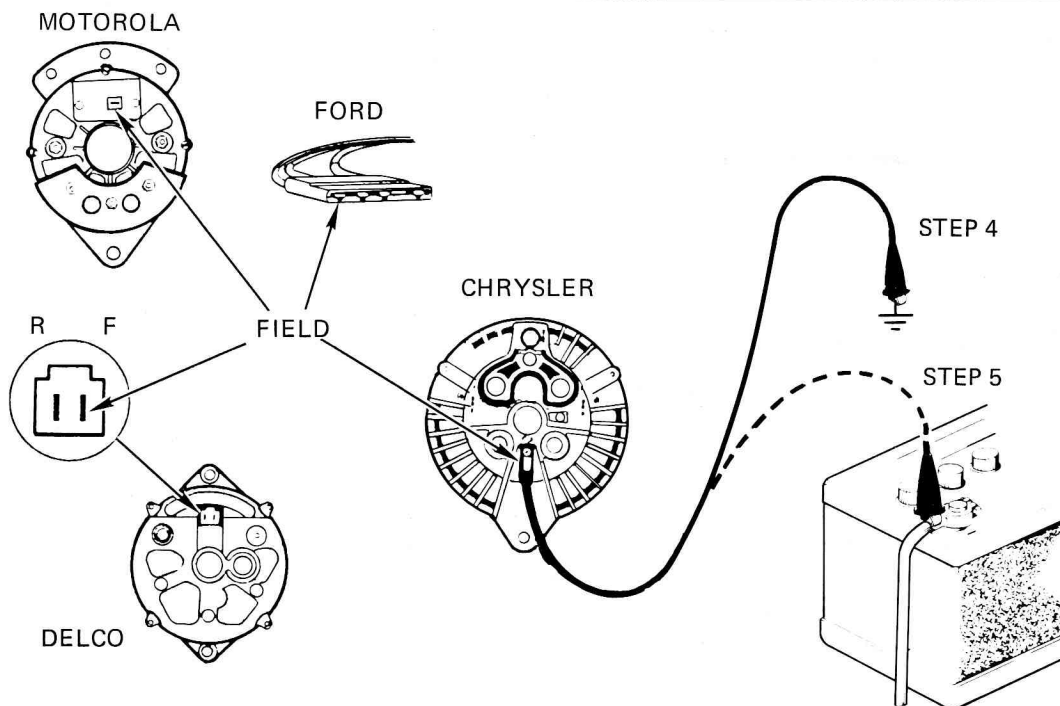

Figure 9
1. Stop the engine and disconnect the field wire. Figure 9.